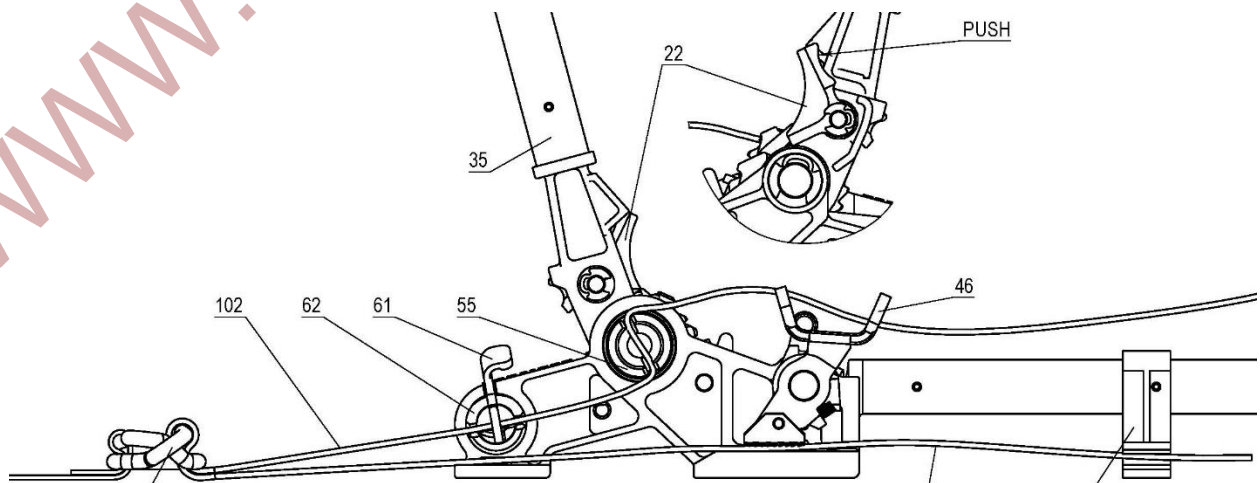

Fig. 6
4. Once satisfactory tension is achieved the strap is ready to be cut. With Tension Handle in the vertical position push on **Cutter Lever 22** (as shown on Fig. 6) to engage the cutter and push **Tension Handle 35** down until the strap is cut. The operation cycle is now complete.